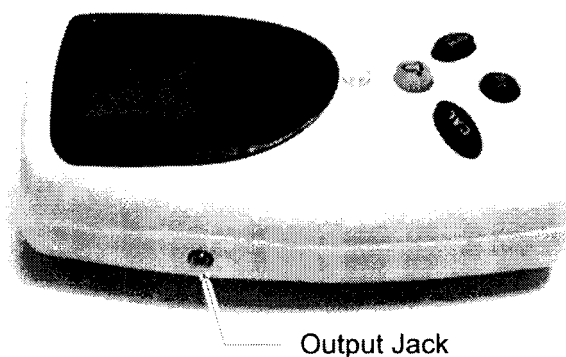

Figure 2-8: 0-1 VDC or RS 232 Digital Output Port
1. Insert one end of the interface cable into the output port on the side of the instrument. See Figure 2-8.
If you requested Option-B (RS 232 digital output) at the time of purchase, a digital RS 232 signal is output from the output port shown in Figure 2-8. Use the optional RS 232 Interface Cable (P/N B-75555) available from Teledyne for connection to a standard RS 232 port on a computer or other suitably equipped digital device.